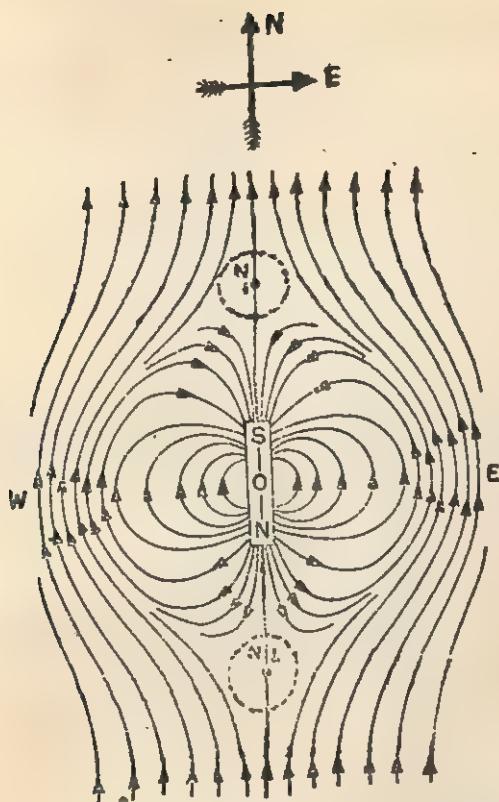

Fig. 12.34. Locating the lines of force when the North-pole points toward the south.
**Theory.** When a bar magnet is placed with its axis along the north south direction such that its north-pole faces the south, then the Neutral Points  $N_1$  and  $N_2$  lie on the axis of the magnet on its either side as shown in Fig. 12.34. The position of these points  $N_1$  and  $N_2$  are in the **End on Position** with respect to the magnet and hence the intensity of the magnetic field  $F$  due to the magnet at these points is given by the equation -